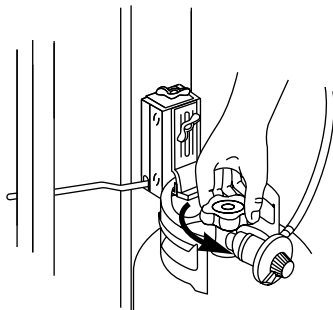

Figure 6
- e) Open the tank valve. Figure 6.